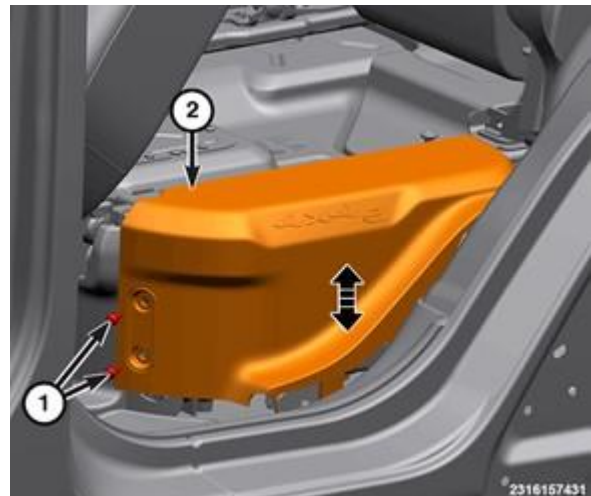

Figure 23 – HV Battery Side Trim
41. Remove the fasteners (1) from the side high voltage battery trim panels (2) (Figure 23).